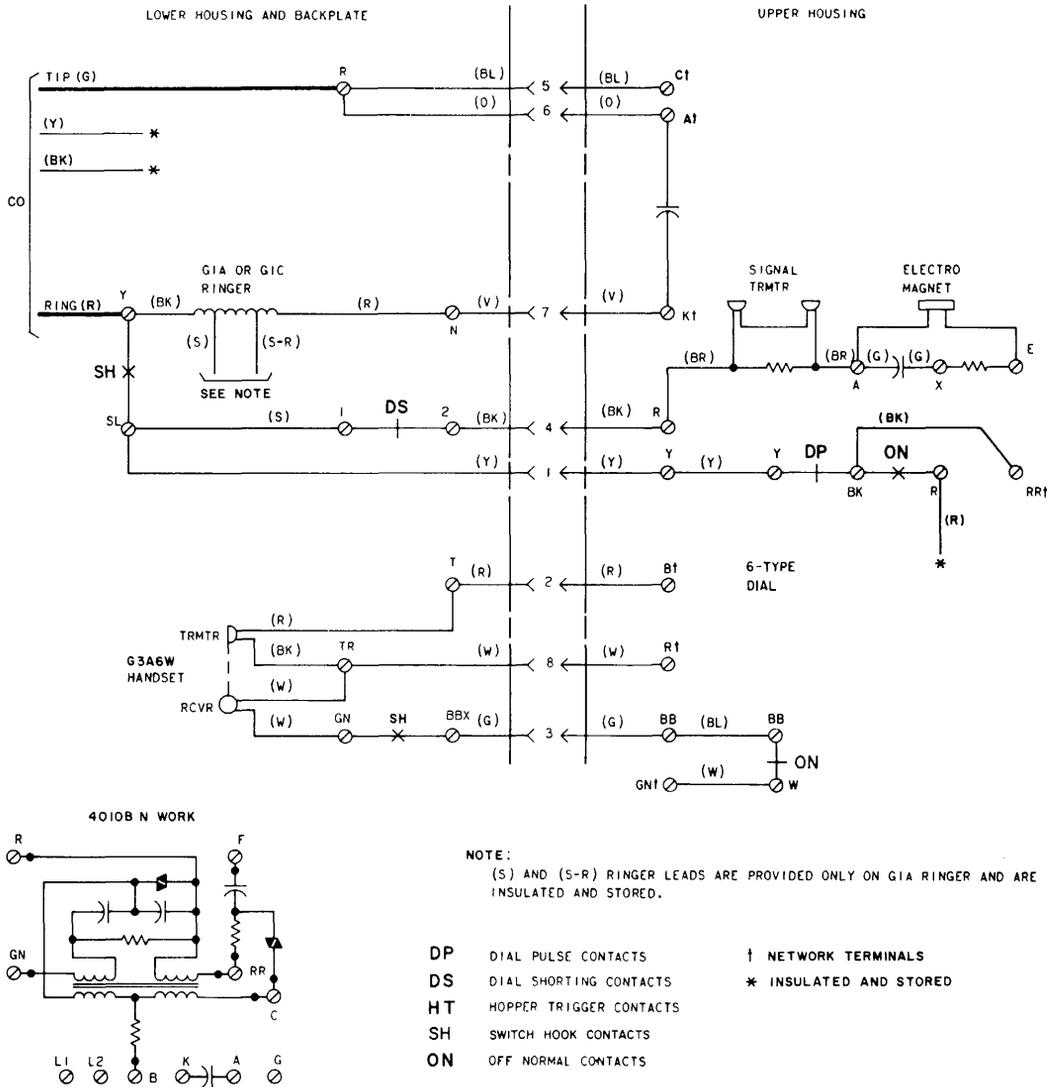

Fig. 5—D-180574 Coin Decorator Telephone Set—Connections
- 3.04** Connect Tip and Ring to set per Fig. 5.
- 5.01** Refer to Fig. 5 for complete connection diagram.